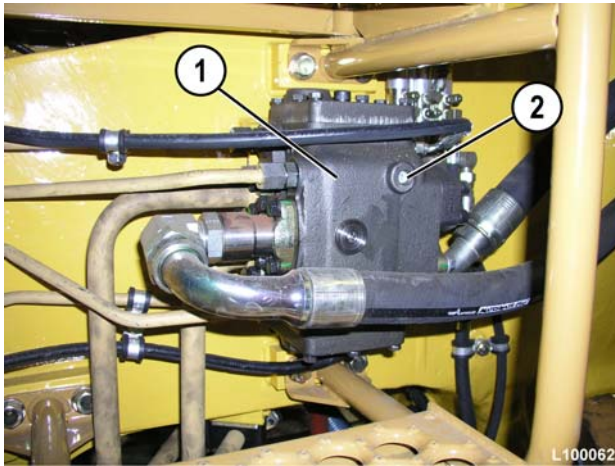

FIGURE 10-3. FLOW AMPLIFIER RELIEF VALVE
- a. Remove plug (2, Figure 10-3) on flow amplifier (1) to access the relief valve.